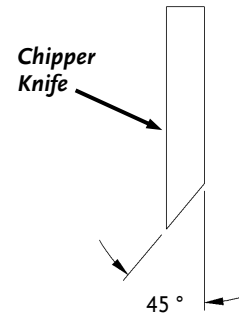

Figure 57
- It is extremely important to consistently maintain the 45-degree angle for proper performance (**Figure 57**).